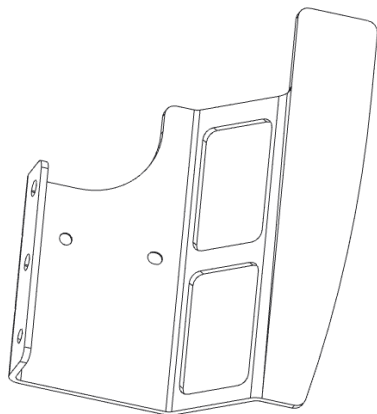

Figure 6. Long Offset Extender
- ▶ NVPN: 682-00003-5555-002 – Long offset extender (Figure 6)